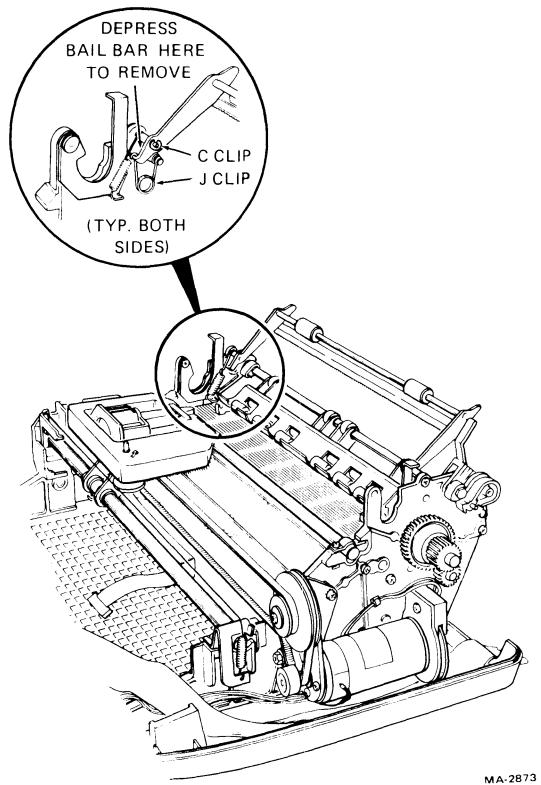

Figure 7-6    Bail Bar Assembly
2. Using needlenose pliers, remove one end of the J-clips from each end of bail bar (Figure 7-6).
3. Using needlenose pliers, remove the bail bar retainer rings (C clips) from each end of the bail bar (Figure 7-6).
4. Press both ends of the bail bar and lift straight up (Figure 7-6).